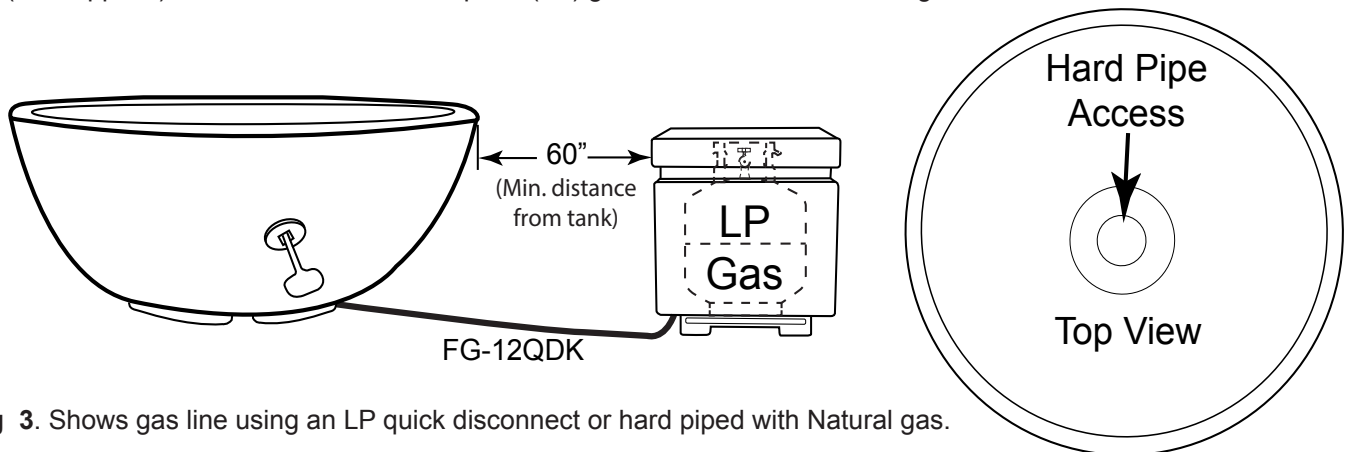

Fig 3. Shows gas line using an LP quick disconnect or hard piped with Natural gas.
The Fire Bowl can be plumbed with either Natural or Propane (LP) gas. See Fig. 3. If you choose to run hard pipe to any Fire Bowl model, enter through center (bottom) of the bowl; protrude pipe no higher than 4" above ground level.
1. Do not place an LP tank inside any fire feature enclosure. Locate all propane (LP) tanks outside the enclosure inside an approved separate enclosure a minimum of 60" from the Sanctuary Series. Flex line can run through any vent holes. If using Propane gas an FG-LPRK regulator (not included) must be used and a FG-12QDK quick disconnect kit (not supplied) enables the use of a Propane (LP) gas tank connection. See Fig. 3.